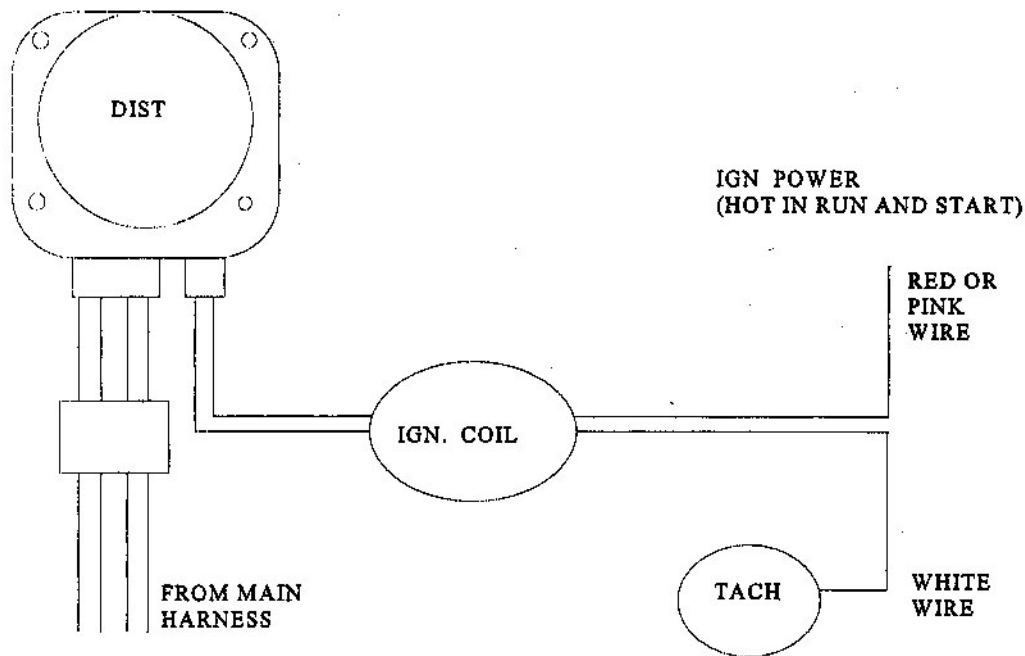

Figure 4.2 External Coil Distributor Hookup
4.1.2 If you are using a separate coil type distributor, then you will use the distributor adapter included in the kit. You will need to obtain the distributor to coil and coil power/tach pigtails either from Painless Performance part #'s 60124 & 60125, a wrecking yard or from your original harness. The wiring for the separate coil system is shown in **Figure 4.2 on p.7**.